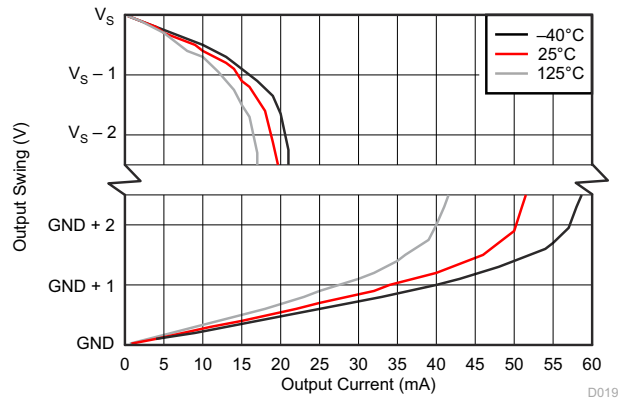

图 7-19. Output Voltage Swing vs. Output Current
(1) RTI = referred-to-input.
(2) Offset voltage is obtained by linear extrapolation to $V_{SENSE} = 0\text{ V}$ with $V_{SENSE} = 10\%$ to 90% of full-scale-range.
(3) See Figure 7-19.
(4) Swing specifications are tested with an overdriven input condition.